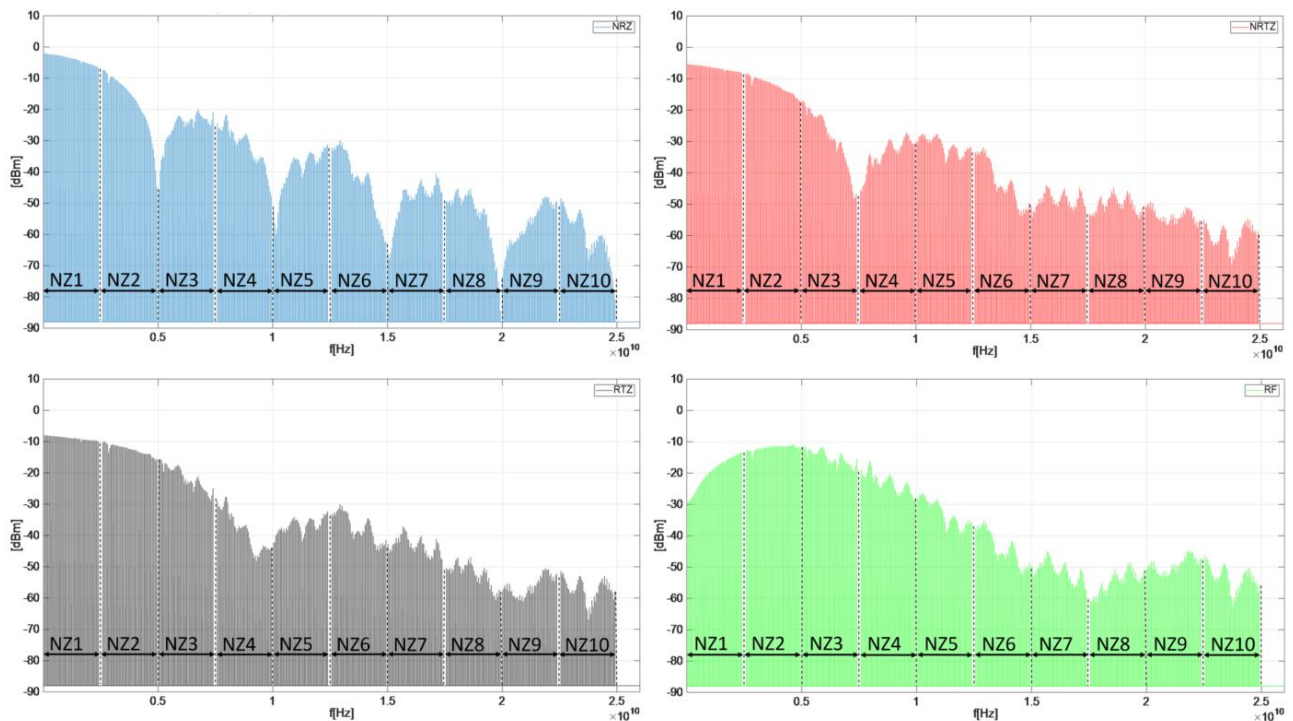

Figure 1-5, SE5082, DAC output frequency response for each sampling mode
There are four sampling modes in the SE5082, Non-return to zero (NRZ), return to zero (RTZ), narrow return to zero (NRTZ) and broadband operation (RF). Each sampling mode has an optimal Nyquist zone for generating signals as detailed by table 1-6. The difference in the frequency response of the DAC for each sampling mode can be seen in figure 1-5.